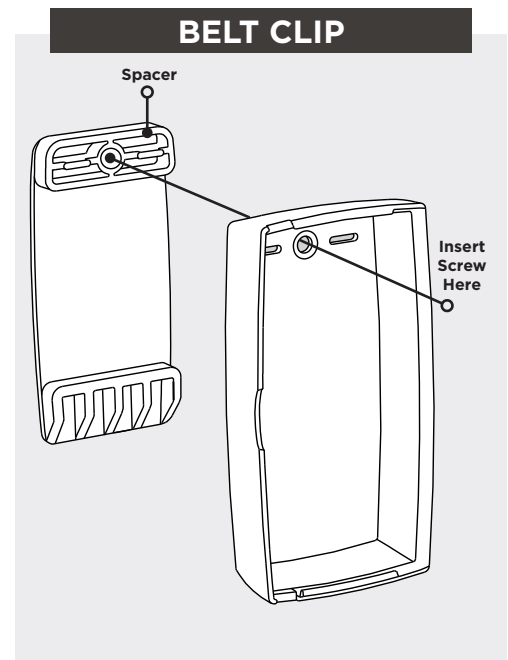

Figure 5: Install the Belt Clip
4. Align the top housing and LED cut out with the base housing and LED cut out and snap into place. See Figure 5.